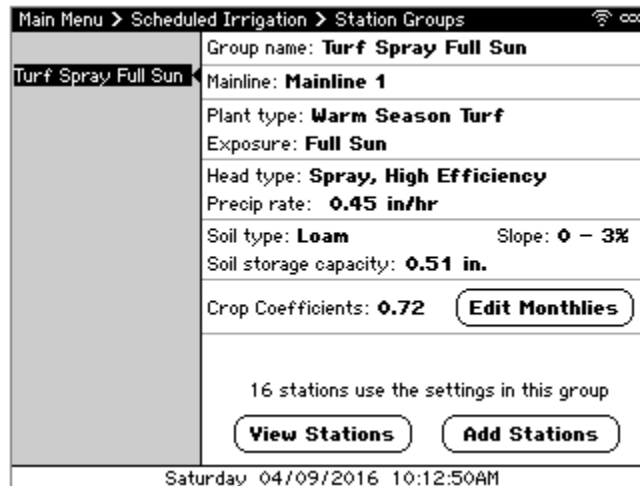

Figure 4 - Station Groups screen
2. Navigate to and select **Station Groups**. The Station Groups screen displays (Figure 4). The panel of the left shows the list of Station Groups and includes the ability to add new groups.